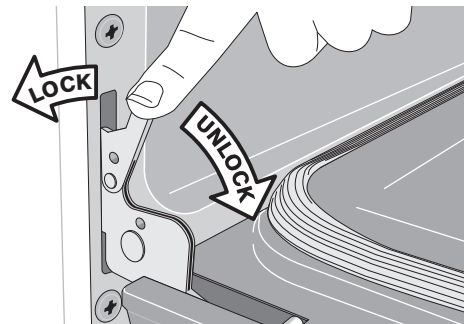

Figure 24: Hinge lock/unlock positions
2. Pull the door hinge locks on both left and right door hinges down from the oven frame completely towards the oven door (Figure 24). A tool such as a small flat-blade screwdriver may be required.
4. Push the door hinge locks up towards and into the oven frame on both left and right oven door hinges (Figure 24) to the locked position; then, close the oven door.